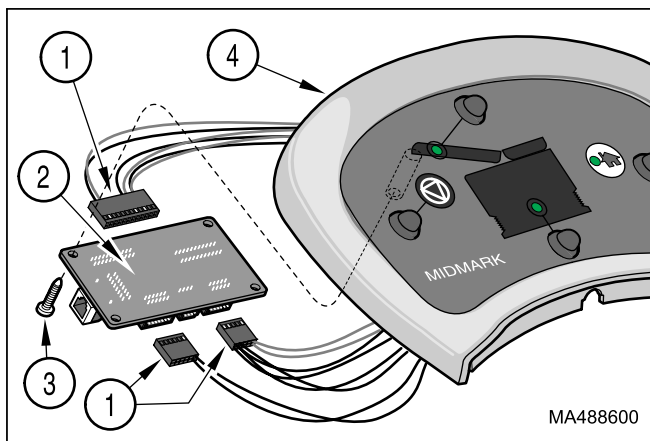

Figure 4-28. Foot Control PC Board Removal / Installation
- (1) Refer to para 4.20A (Removal - steps 1 thru 5).
- (2) Disconnect three wire harnesses (1, Figure 4-28) from PC board (2).
- (3) Remove four screws (3) and PC board (2) from foot control top (4).